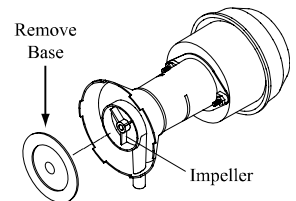

Fig. 13
- **Clean pump.** Cleaning the pump is necessary once a year at start-up. For your safety, turn unit off and unplug motor and pump. Remove the pump from the mount slot. Remove the base of the pump (Fig. 13). Clean the pump and turn the impeller to ensure free operation. Remove the pump spout and check for any blockage. After cleaning, reinstall the base onto the pump. Press firmly to make sure it is secure. Reattach the pump to the mount in the cooler using the plastic retainer to ensure that the pump will not overturn. Do not forget to replace the spout and water delivery tube onto the pump outlet.